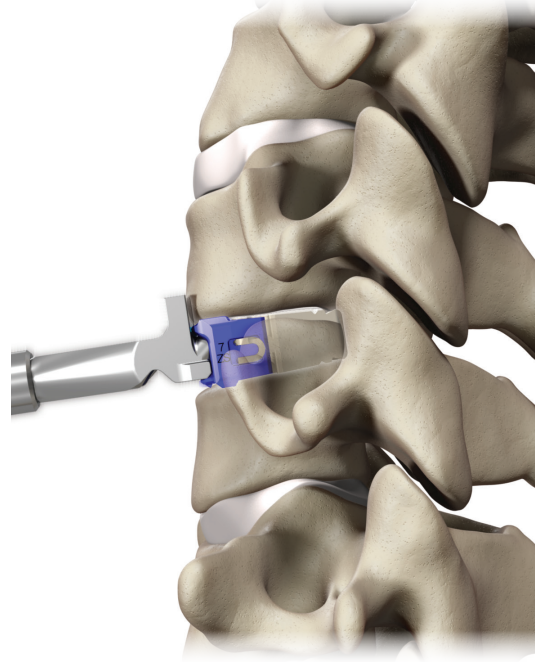

Figure 15
- Ensure that the implant fits snugly between the adjacent vertebrae, and then release distraction while leaving the inserter guide attached to the plate. The modular handle can be temporarily removed from the inserter to increase visibility for screw preparation and delivery (Figure 15).